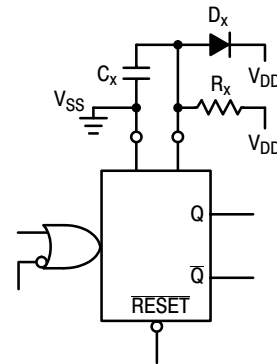

Figure 11. Use of a Diode to Limit Power Down Current Surge
5. If C_X > 15 μF, use discharge protection diode per Fig. 11.
When a more rapid decrease of V_{DD} to zero volts occurs, the MC14538B can sustain damage. To avoid this possibility use an external clamping diode, D_X , connected as shown in Fig. 11.